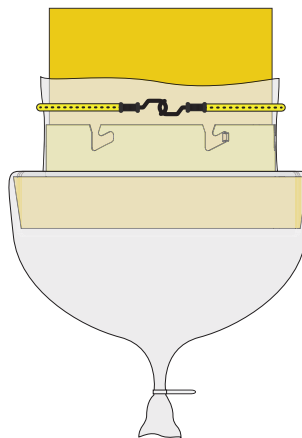

FIG. 9a
Pull the outside of the cassette over and down the lip of the Cassette Holder (B) and tie the bag off with a zip tie [FIG. 9a].